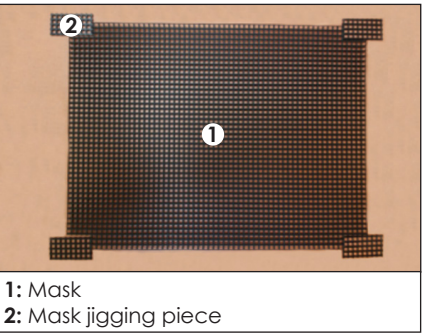

Figure 47: Tile Mask & Jigging Pieces
- 2. Position a mask (Daktronics part number MP-4021294) over a tile. Refer to **Figure 47**. Ensure the mask does not span across a tile seam.